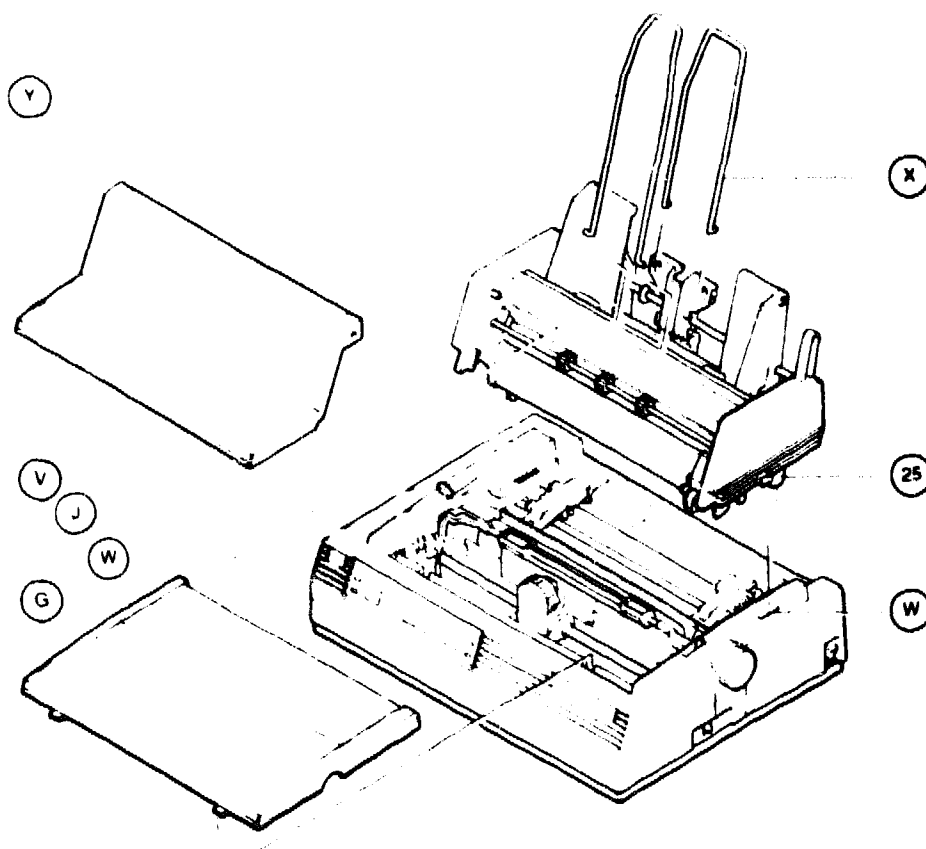

Figure 9-1 Installing the ASF
Refer to Figure 9-1.
2. Press the Automatic Sheet Feeder release button (Z) (see Figure 9-1) and lift the assembly up and off the printer.